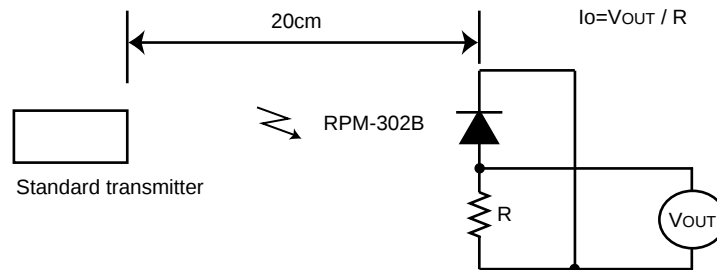

Fig.2 Measurement of standard transmitter proofreading
When standard transmitter output the signal at Fig.1 standard photodiode output become $I_o=5\mu\text{A}$ under the measurement condition Fig.2.
- (1) All characteristics of the receiver in this specification are specified by supplying burst wave form with ROHM standard transmitter (Fig.2).